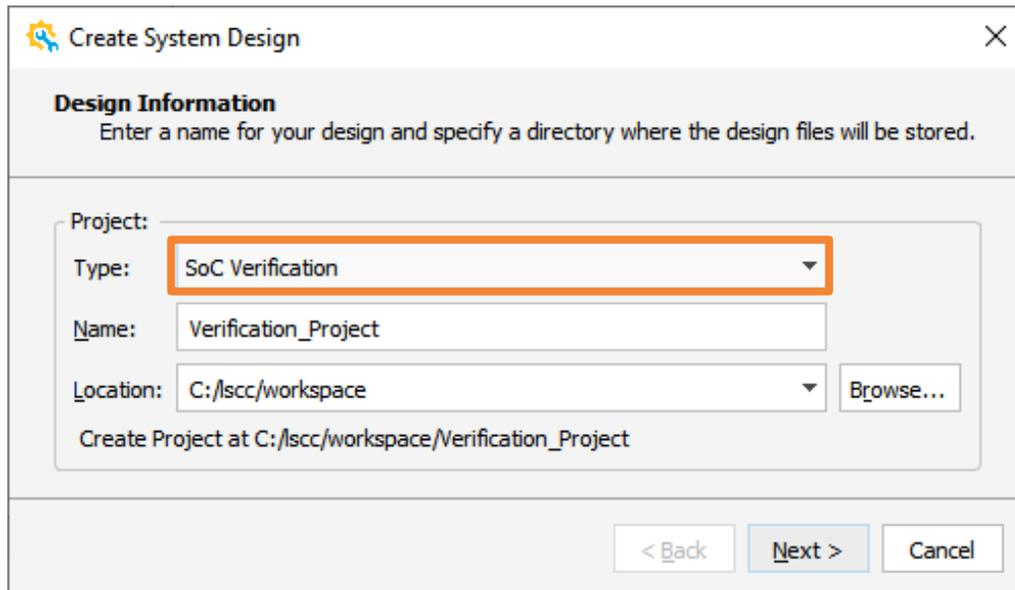

Figure 2.142. Create System Design – Design Information Wizard
1. Choose **File** >  **New Design** from Lattice Propel Builder Menu Bar. The Create System Design wizard opens (Figure 2.142).